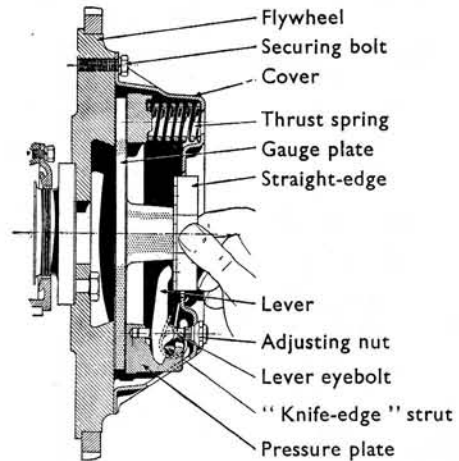

Fig. E.6.
and the flywheel. Proceed as follows :—Place the gauge plate, Part No. CG.14322, centrally in the flywheel in place of the driven plate. Fit the cover assembly to the flywheel by tightening the securing bolts (2) a turn at a time by diagonal selection until fully secured. Place a straight-edge across the gauge plate boss and the tip of one release lever (Fig. E.6) and adjust the release lever, if necessary, by turning the adjusting nut (14) until the tip of the lever is exactly level with the top of the gauge boss. Adjust the remaining levers in a similar manner. The setting should be within .005 in. (.13 mm.).